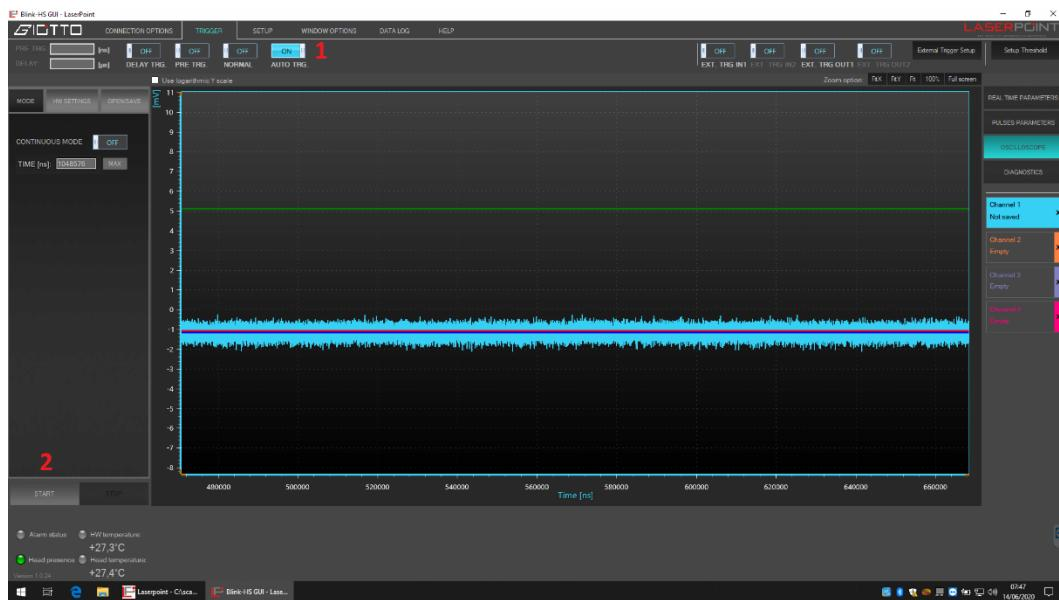

Figure 14
1. In Auto Trigger mode (1, fig.14) the HSM meter starts acquisition just after pressing Start button (2, fig.14)